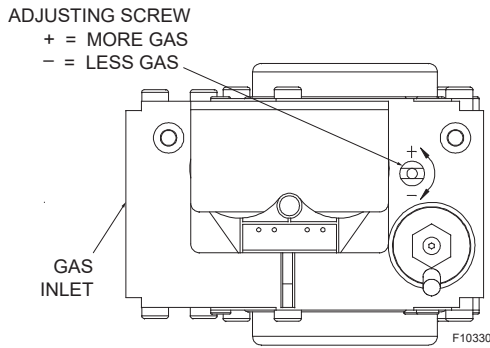

Figure 42. Gas Valve
2. To increase the manifold pressure and increase the ratio of fuel to air turn the adjustment screw counterclockwise (toward the +) (See Figure 42). For example, a reading of -2.0" WC (-0.5 kPa) can be increased to -1.5" WC (-0.4 kPa) by turning the adjustment screw counterclockwise. Increasing manifold pressure will increase the CO2 percentage in the flue gases.
3. To decrease the manifold pressure and decrease the ratio of fuel to air turn the adjustment screw clockwise (toward the -) (See Figure 42). Decreasing manifold pressure will reduce the CO2 percentage in the flue gases.